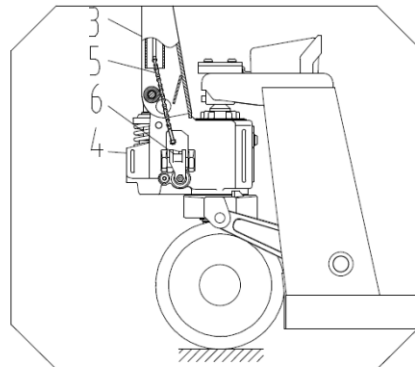

Fig. 2
3. Put the chain 5 of the handle pipe through the hole of the pin roll 2. *(Fig. 2)*
4. Take the screw nut at the end of chain 5 and hitch the groove of lever board 6. *(Fig. 2 and 4)*